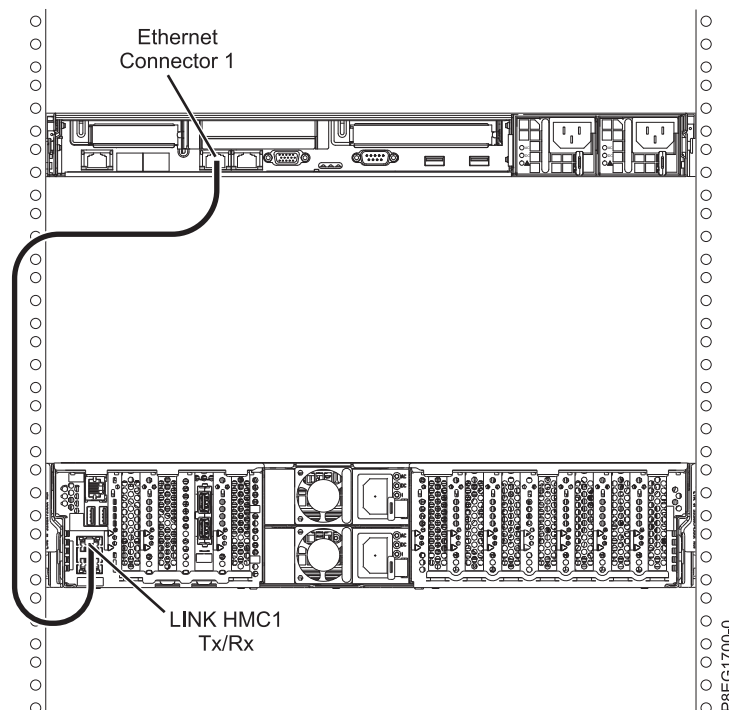

Figure 39. Attaching the HMC to the managed system
1. If you want to directly attach your HMC to the managed system, connect **Ethernet Connector 1** on the HMC to the **HMC1** port on the managed system. See Figure 39.